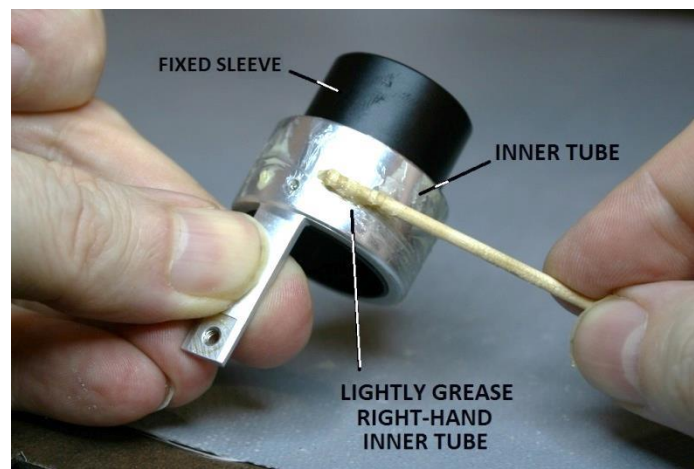

Figure 79 – Lightly grease polished inner tube (right)
Apply a light coating of a suitable grease (item 5 of Appendix 1) to the outer surface of the polished inner tube (see Figure 79).